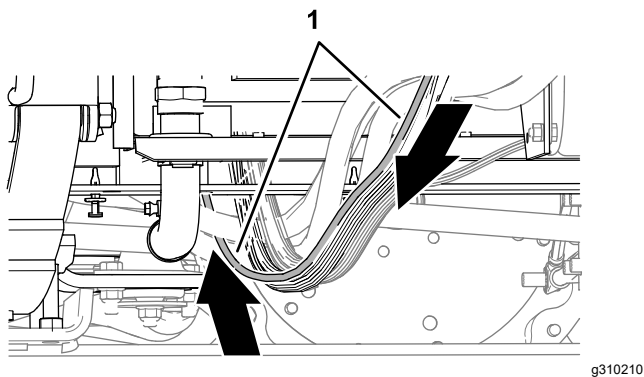

Figure 68
5. At the rear side of the radiator, route the modem data cable upward (Figure 68).